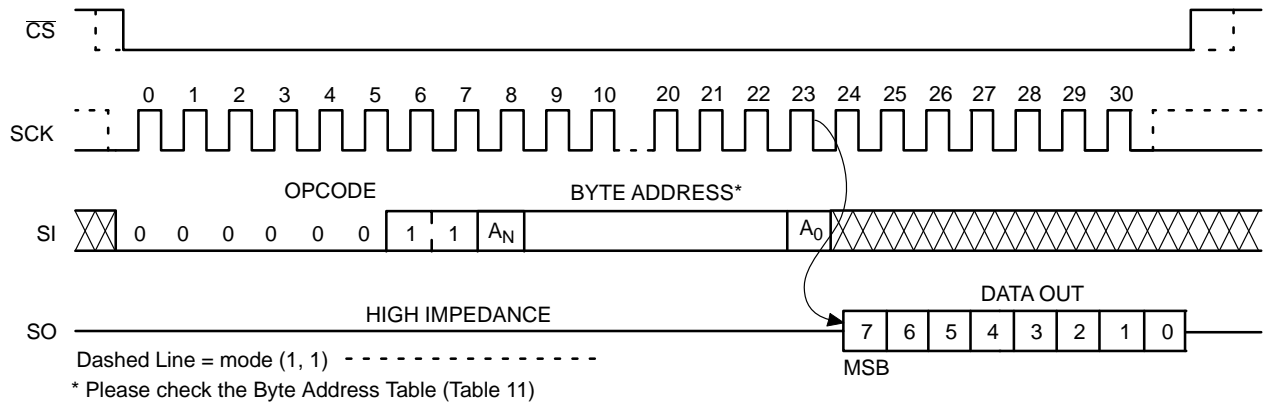

Figure 9. READ Timing
After receiving the last address bit, the CAV25512H will respond by shifting out data on the SO pin (as shown in Figure 9). Sequentially stored data can be read out by simply continuing to run the clock. The internal address pointer is automatically incremented to the next higher address as data is shifted out. After reaching the highest memory address, the address counter “rolls over” to the lowest memory address, and the read cycle can be continued indefinitely. The read operation is terminated by taking  $\overline{CS}$  high.
Reading the additional 128-byte Identification Page (IP) is achieved using the same Read command sequence as used for Read from main memory array (Figure 9). **The IPL bit from the Status Register must be set (IPL = 1) before attempting to read from the IP.** The [A6:A0] are the address significant bits that point to the data byte shifted out on the